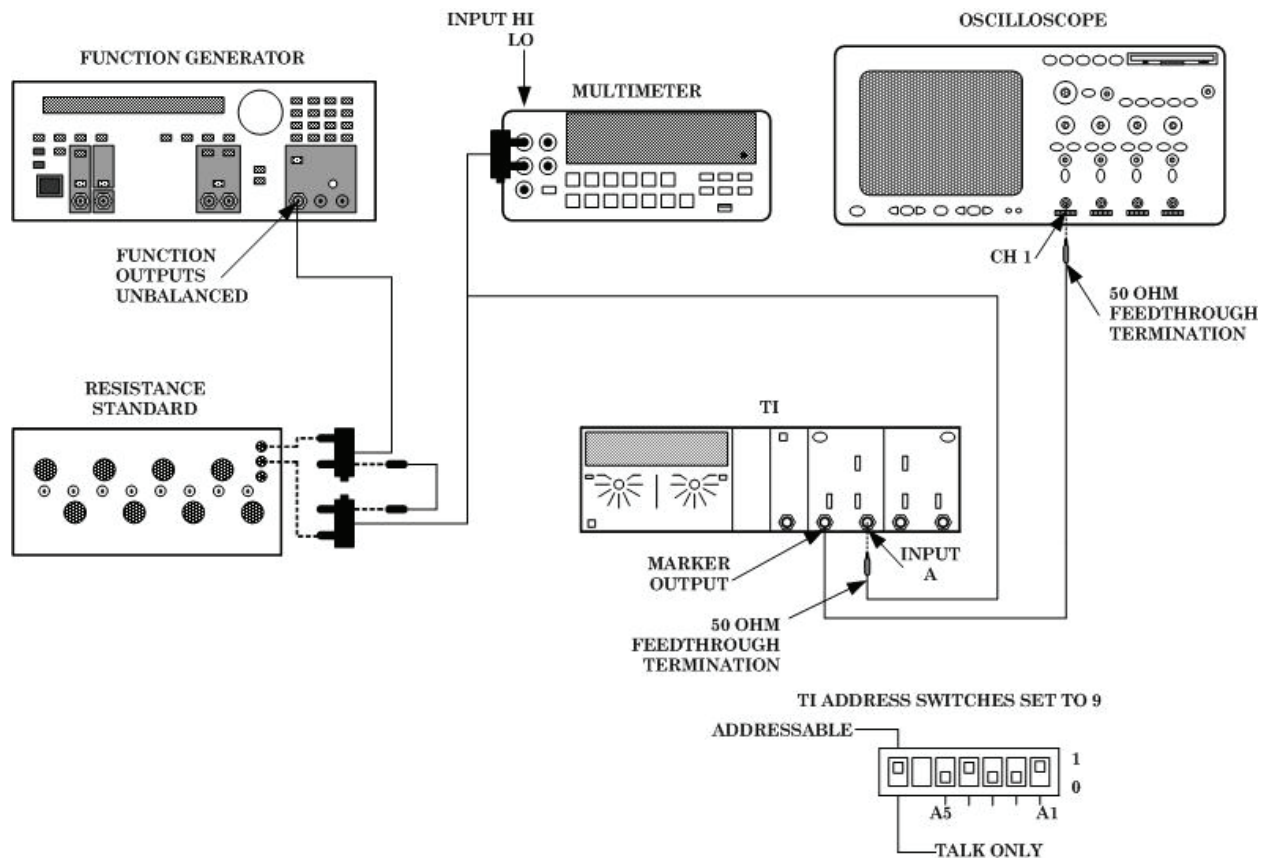

Figure 6. Trigger level adjustment - equipment setup.
- (1) Connect equipment as shown in figure 6.
- (2) Set resistance standard to $0\ \Omega$ and multimeter to measure V dc, autorange.
- (3) Set oscilloscope channel 2 off and channel 1 on. Set channel 1 for DC input coupling, $1\ \text{M}\Omega$ input, 500mV/div amplitude and $5\ \mu\text{s}/\text{div}$ sweep.
- (4) Set oscilloscope triggering for positive slope, auto level, channel 1 source and DC coupling.
- (5) Set function generator as listed in (a) through (e) below:
- (6) Execute TI command string PF4G6S1S3A379+000*B37+000*R.